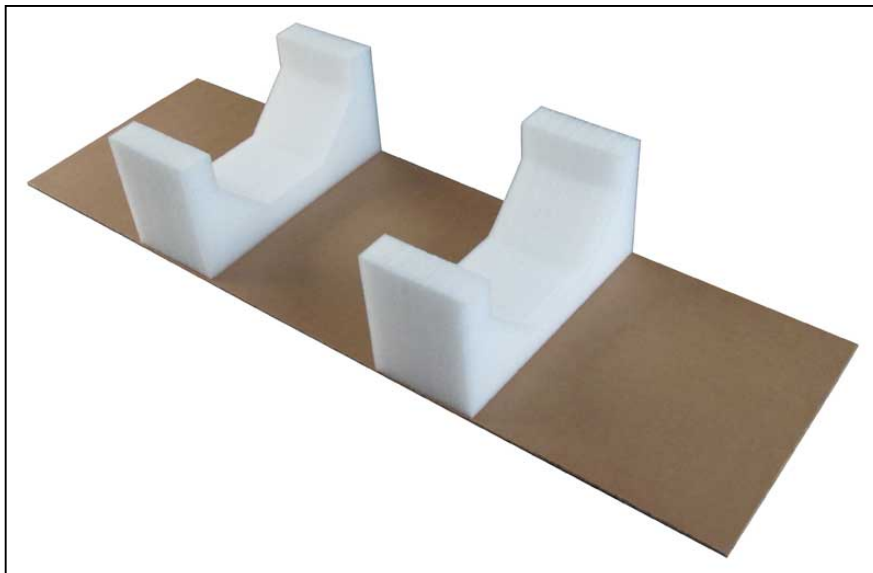

Figure 3. HRS-130 shipping carton top packing piece
3. Remove the top packing piece figure 3.